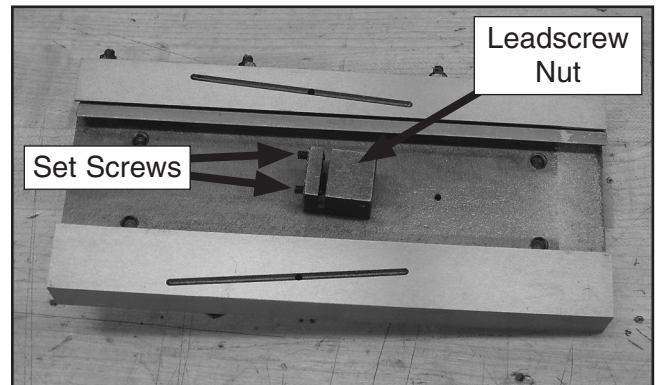

Figure 25. Leadscrew nut on cross slide.
5. Remove the leadscrew nut (**Figure 25**) from the cross slide.